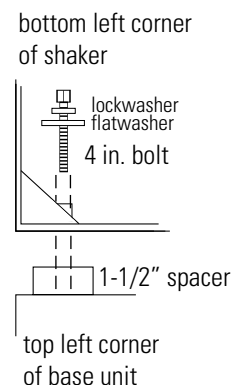

Figure 1-8. Shaker To Shaker
4. Carefully lift and position the middle or top unit over the spacers on the base unit. Align the (4) connection point holes in the bottom of the middle or top unit with the (4) spacers and threaded inserts. (Helpful hint: use masking tape around outside edge of spacers to hold in place during installation. Remove tape after installation.)
5. Assemble the lockwashers, then the flatwashers, onto the 5/16-18 x 4" bolts. Thread the bolts through the connection point and spacer and into the unit below (Figure 1-8). Tighten bolts.